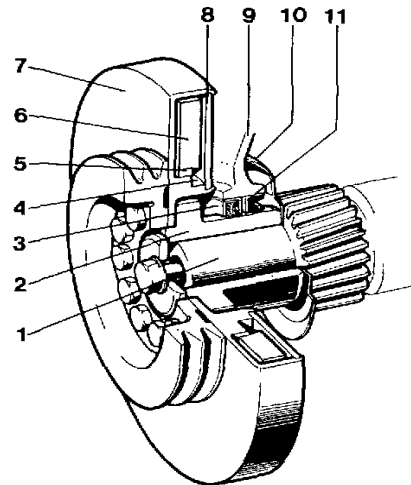

Fig. 17. Vibration damper
On industrial engines in the 120-series, from and including engine no. 91926/xxxx, the deflector ring (pos. 10, fig. 17) has been deleted. These engines have a protector ring on the polygon hub and a corresponding groove in the auxiliary drive cover.